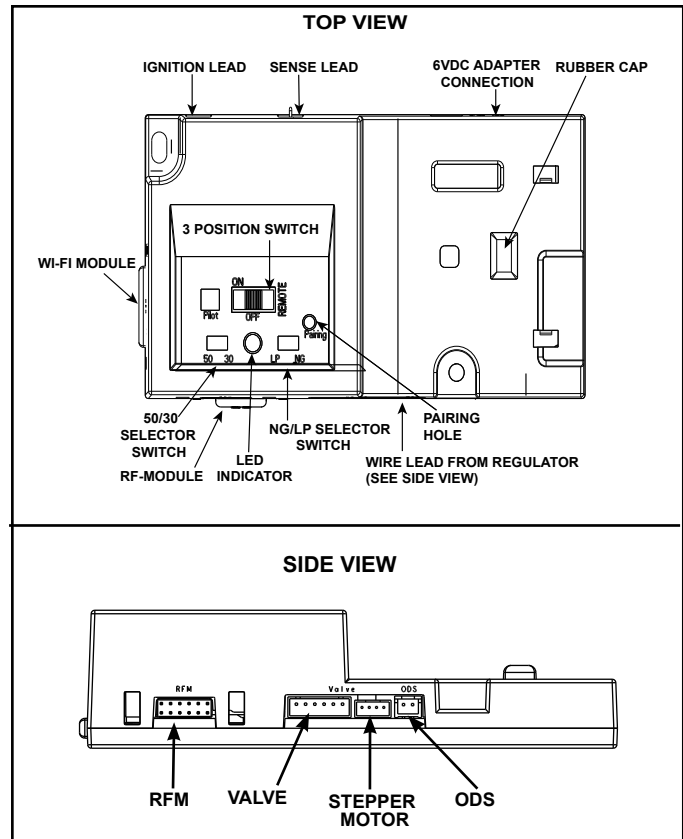

Figure 3.3 IFT-ECM 2.0
1. The Electronic Control Module (IFT2-ECM) has a three-position ON/OFF/REMOTE selector switch that must be set for proper operation. See Figure 3.3. When changing switch positions, it is important to pause in each position for 1-2 seconds.